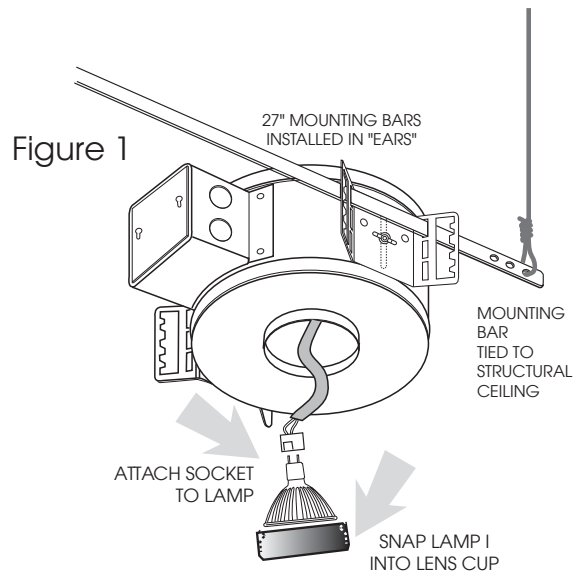

Figure 2
3. INSTALL LAMP CUP INTO FIXTURE ADJUSTMENT BRACKET. (Fig.2)